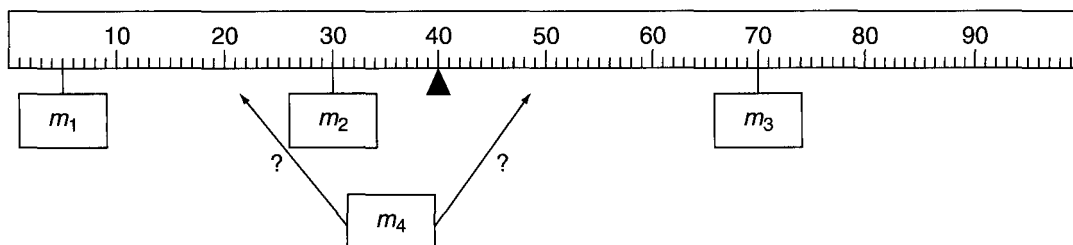

Figure 10-3 The location of mass m_4 needed to place the system in equilibrium is to be determined both experimentally and theoretically, and then compared.
- Adjust the knife-edge clamp to the 0.400 m mark. Place $m_1 = 0.050 \text{ kg}$ at 0.050 m , $m_2 = 0.300 \text{ kg}$ at 0.300 m , and $m_3 = 0.200 \text{ kg}$ at 0.700 m as shown in Figure 10-3. With the meter stick supported at the 0.400 m mark, determine the position at which mass $m_4 = 0.100 \text{ kg}$ balances the meter stick. Record this